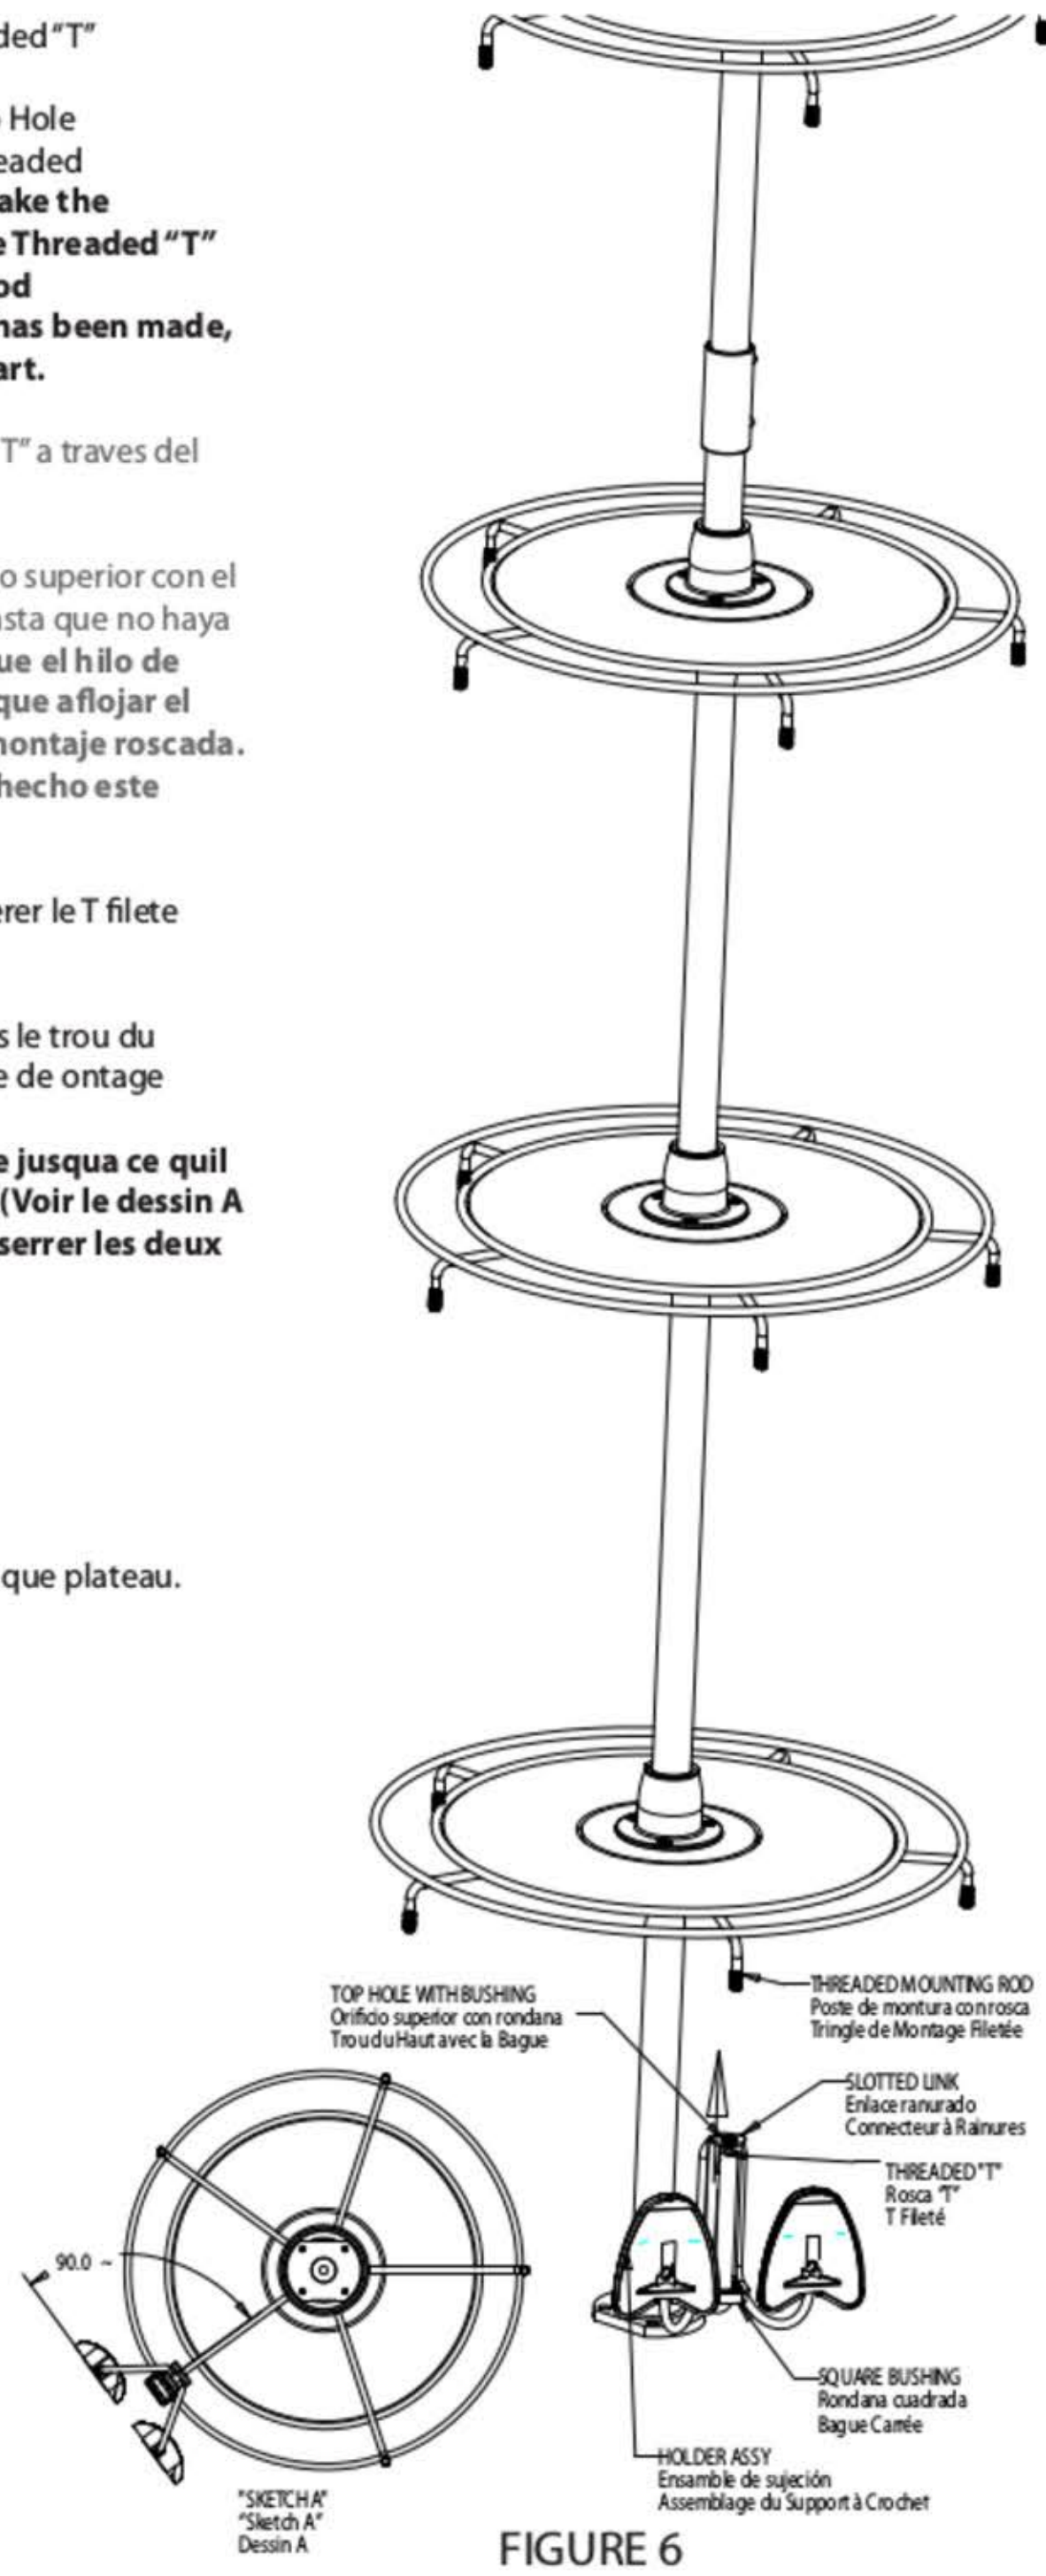

FIGURE 6
B. Insert the threaded mounting rod thru the Top Hole with bushing and thread the Threaded "T" onto the Threaded Mounting Rod until no threads are visible. **NOTE: To make the assembly align correctly you may have to loosen the Threaded "T" until it is perpendicular to the threaded mounting rod "SEE SKETCH A" In figure 6. When this adjustment has been made, tighten both of the set screws in the Threaded "T" part.**